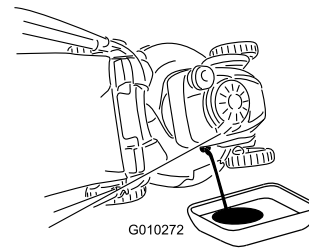

Figure 27
5. Place a drain pan next to the **right** side of the mower (Figure 27).